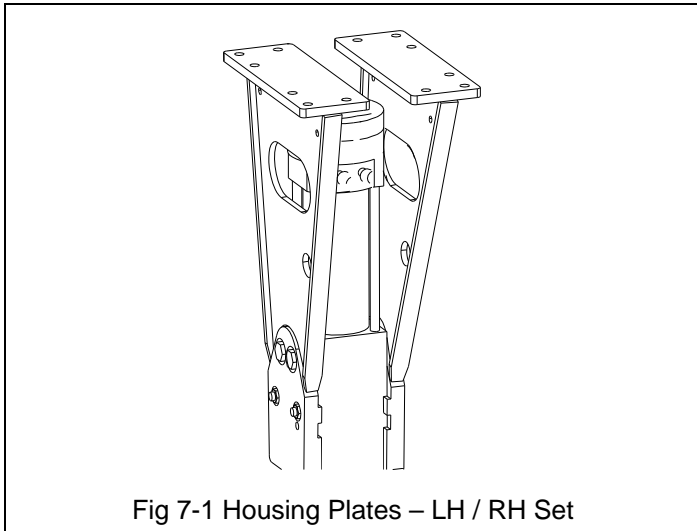
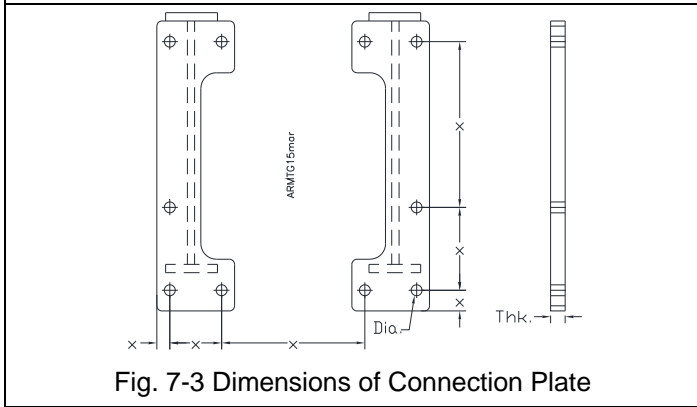
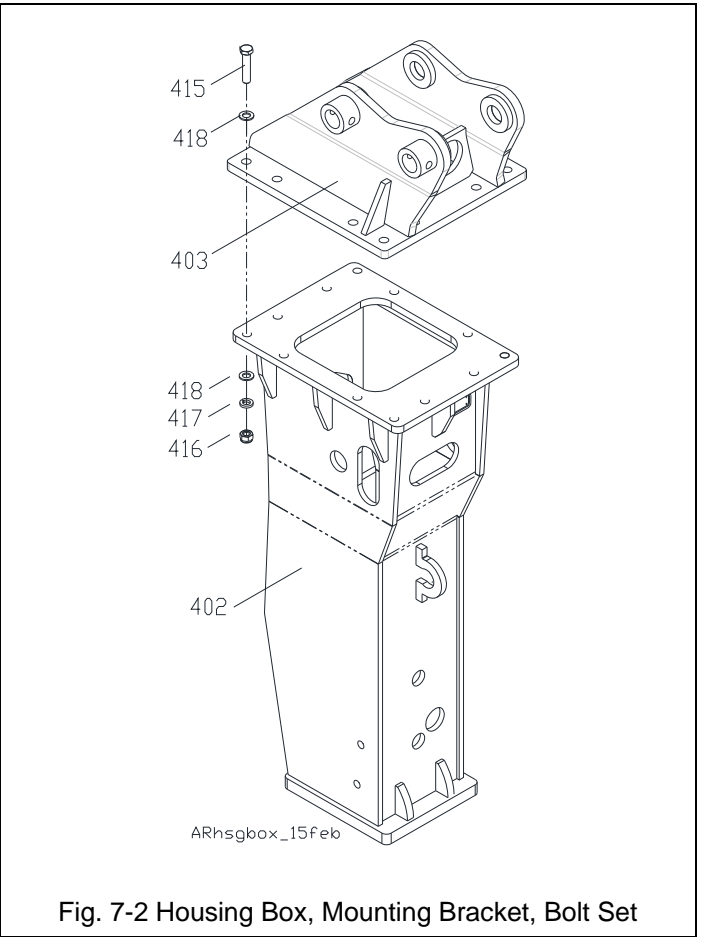

Fig 7-1 Housing Plates – LH / RH Set
Fig. 7-3 Dimensions of Connection Plate
Fig. 7-2 Housing Box, Mounting Bracket, Bolt Set
The Breaker assembly is equipped with either housing plates (Fig. 7-1) or housing box (Fig. 7-2, item 402). Installation of a mounting bracket (sold separately) is required before the Breaker can be attached to a carrier. Allied offers an array of bolt-on mounting brackets to fit virtually any carrier, including those equipped with pin-grab or hook-type quick mounting couplers.
The mounting bracket (Fig. 7-2, item 403) is bolted to the connection plate (Fig. 7-3) located at the upper end